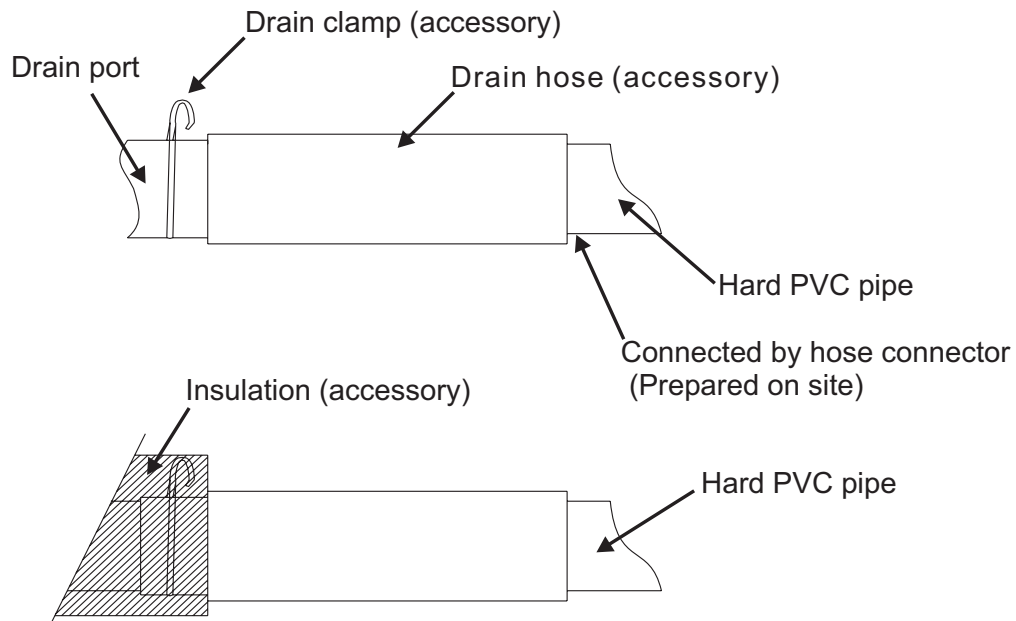

Fig.12
3. Insert the drain hose until it connects the drain port very well, and then secure it tightly with the hose clamp(Accessory)(Fig.12)
4. After checking the drainage, wrap the drain hose with the insulation and clamps (Accessory). (Fig.12)